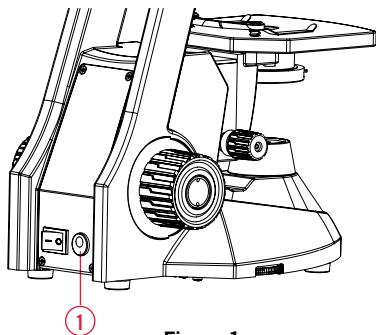

Figure 1
- Connect the charger to the power supply. Before plugging in, keep in mind that the working voltage of the biological microscope shall be the same as the supply voltage. (Figure 1)